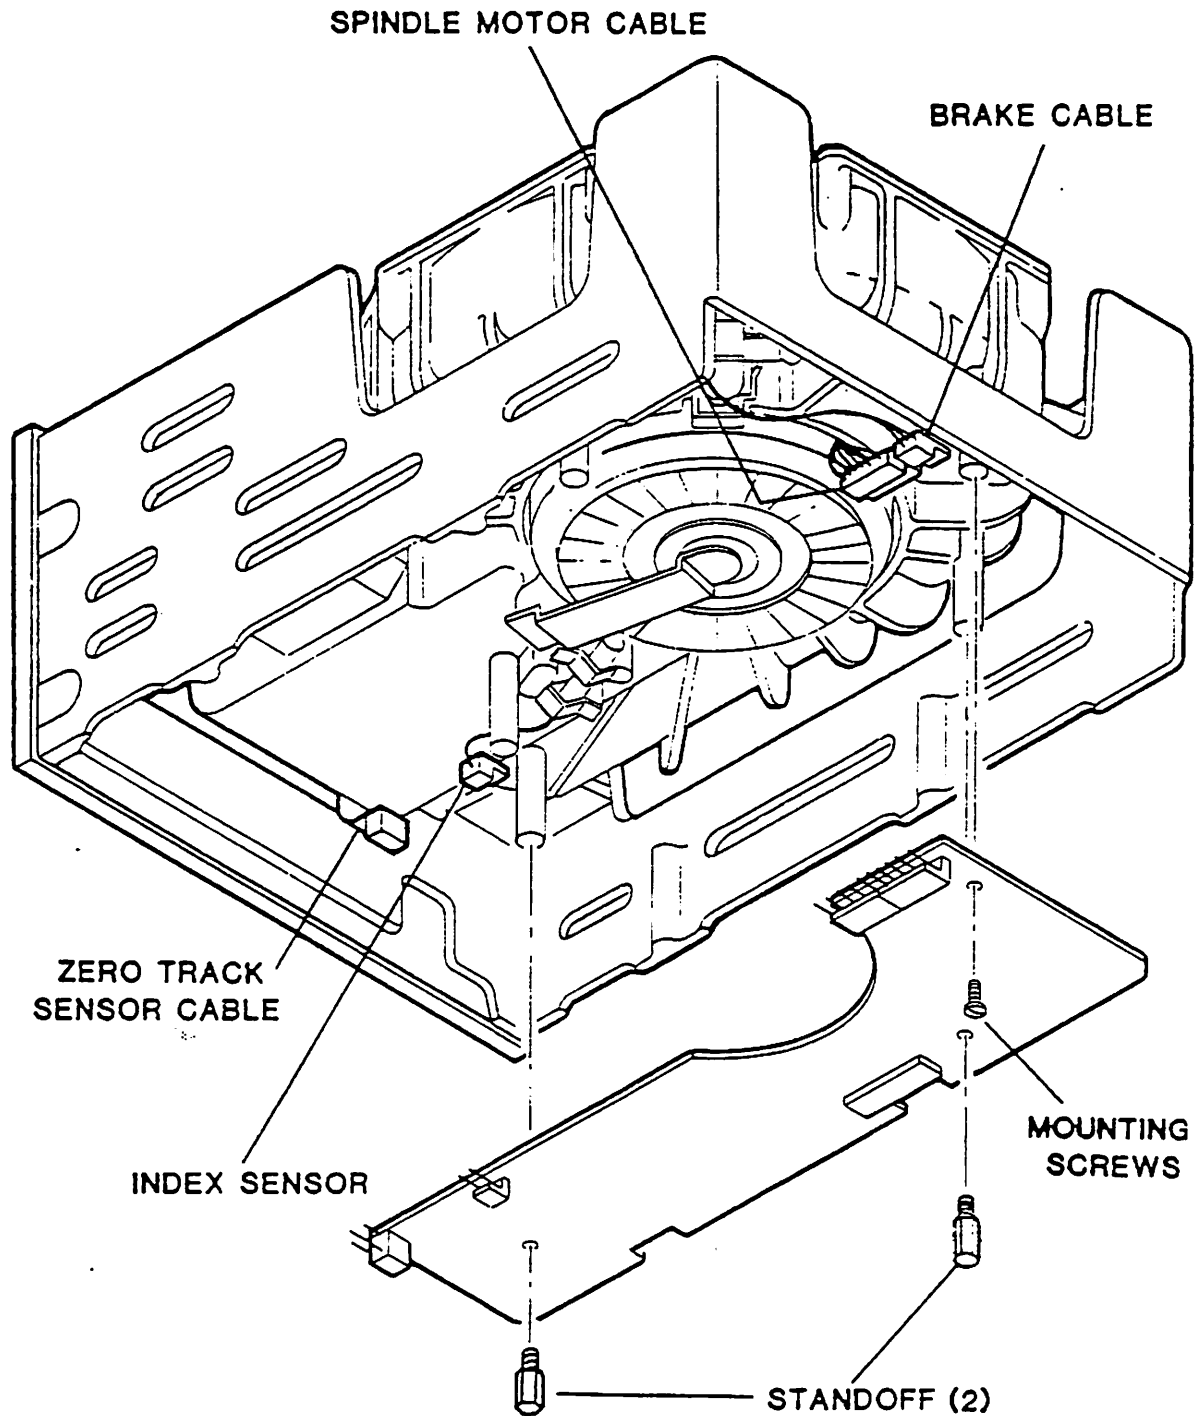

Figure 6-3. Motor Control Board Removal and Replacement
6.3.3 Motor Control Board Removal and Replacement (Figure 6-3)